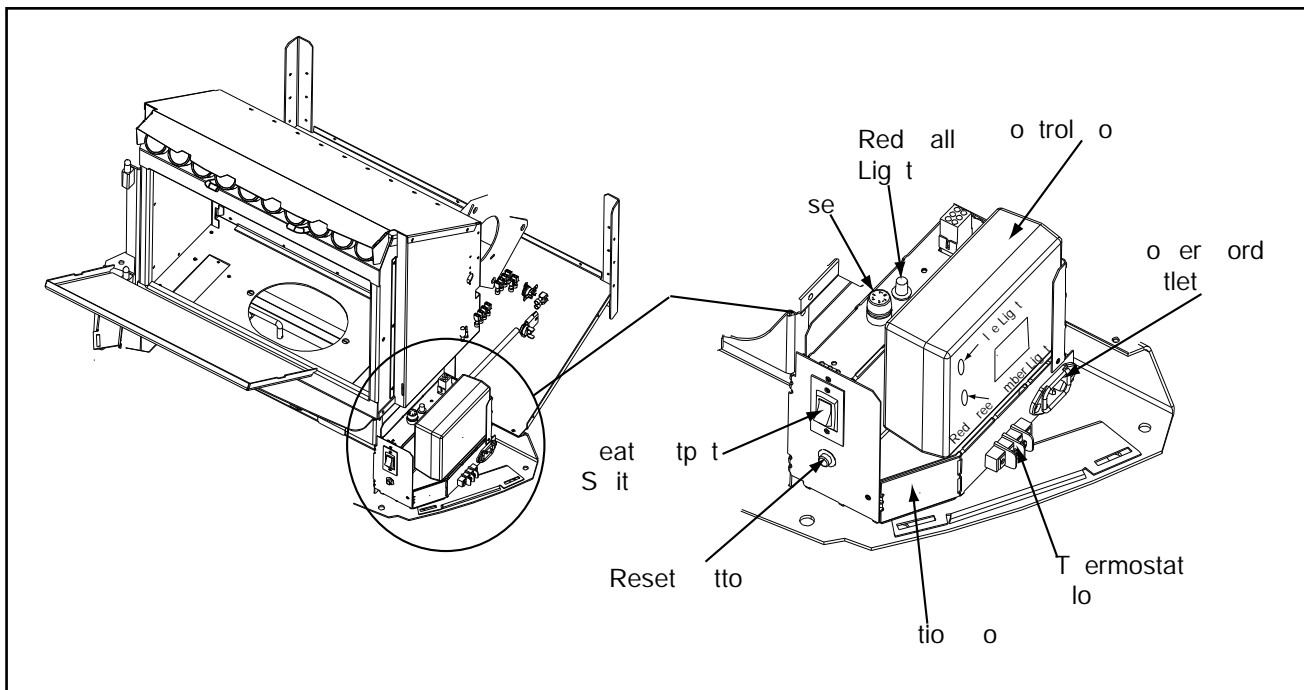

Figure 21.1
3. There is a 4 screw terminal block located on the junction box to the left of the power cord inlet. The center 2 screws are for the thermostat wires. The outer 2 are the mounting screws for the terminal block. **Figure 21.1.**
3. Occasionally the appliance may run out of fuel and shut itself down. When this happens, the red call light will be on. To restart it, fill the hopper and press the reset button. **See Figure 21.1 on page 21.** When you press the reset button the red call light will go out. Release the button and the light will come back on. You should see a fire shortly. If not, follow the instructions on **page 23**, "Starting Your First Fire".